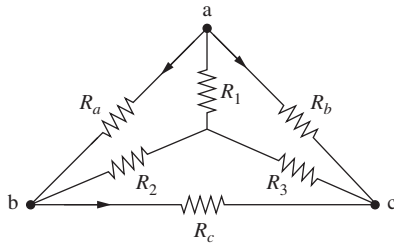

Figure P2.24 Delta to Y conversion circuit.
- 2-24.** When converting resistances connected in a Δ formation to a Y formation as shown in Fig. P2.24, the resistance R_1 is obtained as
2-25. When converting resistances connected in a Δ formation to a Y formation as shown in Fig. P2.24, the resistance R_1 is given by equation (2.66).
2-26. When converting resistances connected in a Δ formation to a Y formation as shown in Fig. P2.24, the resistance R_2 is obtained as
2-27. When converting resistances connected in a Δ formation to a Y formation as shown in Fig. P2.24, the resistance R_3 is obtained as